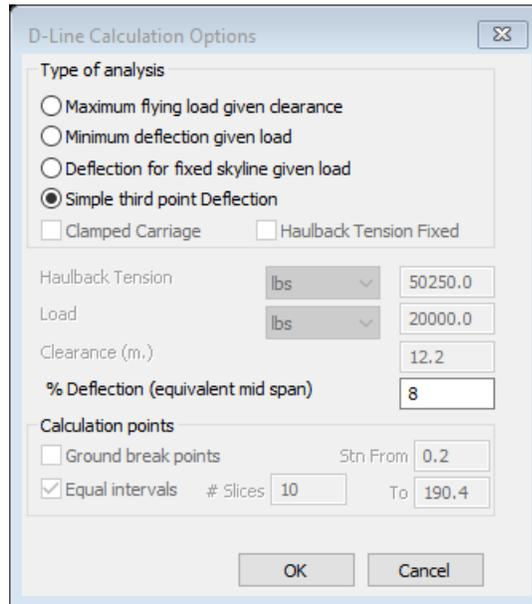

Figure 12-8: New parameters in the *D-Line Calculation Options* dialogue box.
5. Change the parameters to match those shown in Figure 12-8 below (*Simple third point, 8% Deflection*) then press *OK* to return to the previous dialogue box.